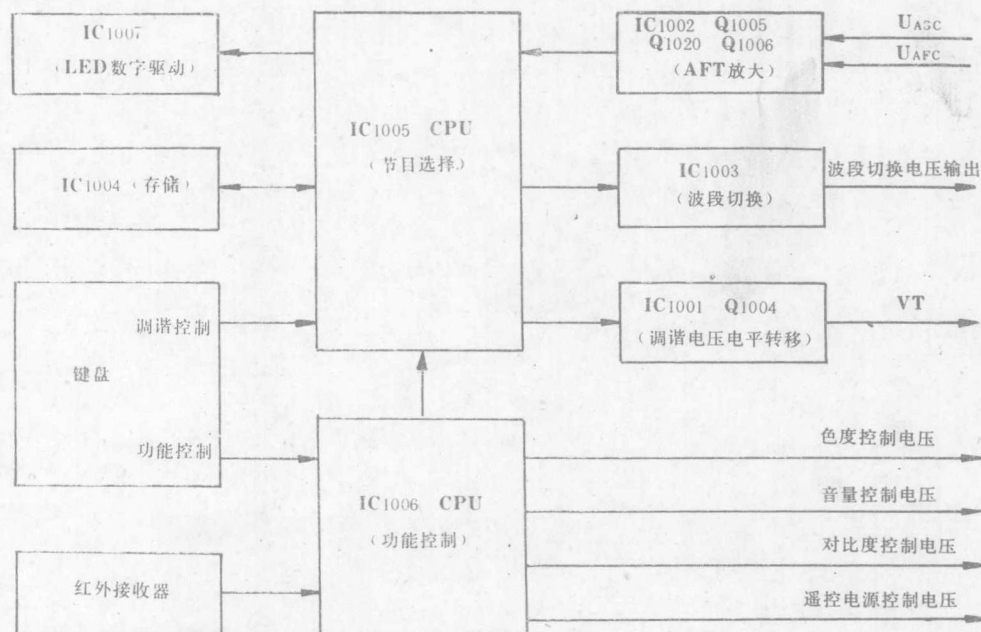

图 1
SHARP C202NX 控制电路方框图如图 1 所示。
Figure 1 is a schematic diagram of the VHF channel selection circuit. It shows a 12V power supply connected to a network of components. A 100k resistor (R1163) is connected to the 12V supply and to a point labeled (5). A 100k resistor (R1167) is connected to point (5) and to a point labeled (4). A 10uF capacitor (C1045) is connected to point (4) and to a point labeled (3). A 10/50 capacitor (C224) is connected to point (3) and to a point labeled (2). A 10003CE component is connected to point (2) and to a point labeled (1). The circuit is connected to a VHF channel selection switch (SW1001) and a VHF channel selection switch (SW1002).